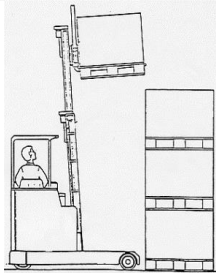

fig. 2
3. Look up and check for obstructions, then raise the load to the desired stacking height. (See fig. 2)